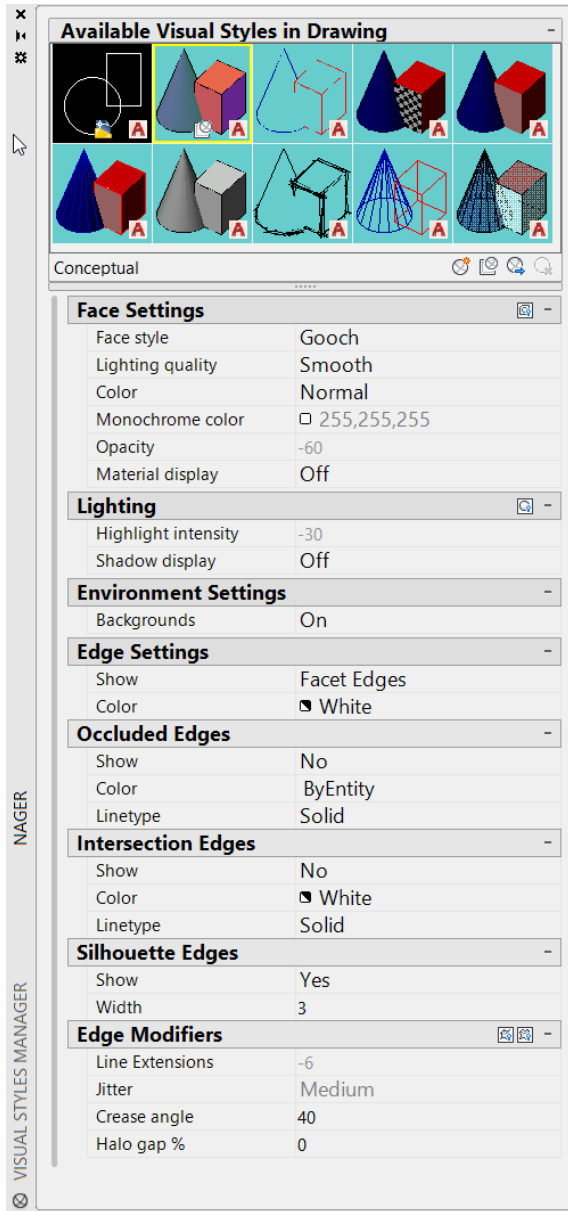

FIGURE 21-8:
- » **Realistic:** Fully shaded, but not rendered visual style; edges are not displayed, and a default ambient lighting highlights the faces with different intensities of the object color. Materials and textures are visible if they've been applied. Have a look at Figure 21-8 for an example.
AutoCAD's preconfigured visual styles are only the beginning. You can modify any of the styles and create new ones in the Visual Styles Manager palette (see Figure 21-8).